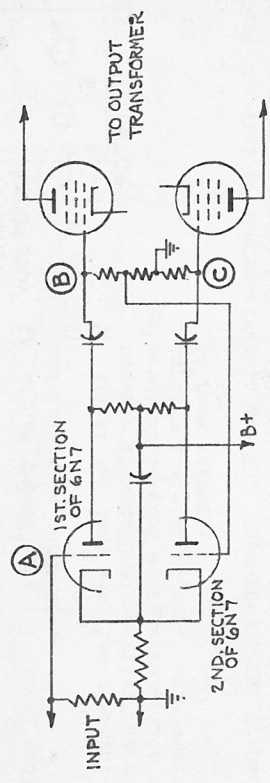

FIGURE 3: ONE TYPE OF PHASE INVERTER FOR AUDIO AMPLIFICATION.
20. Figure 3 shows a phase inverter circuit using a 6W7 (double triode) to feed the push-pull output stage. The phase inverter circuit can be quickly checked for proper operation as follows: